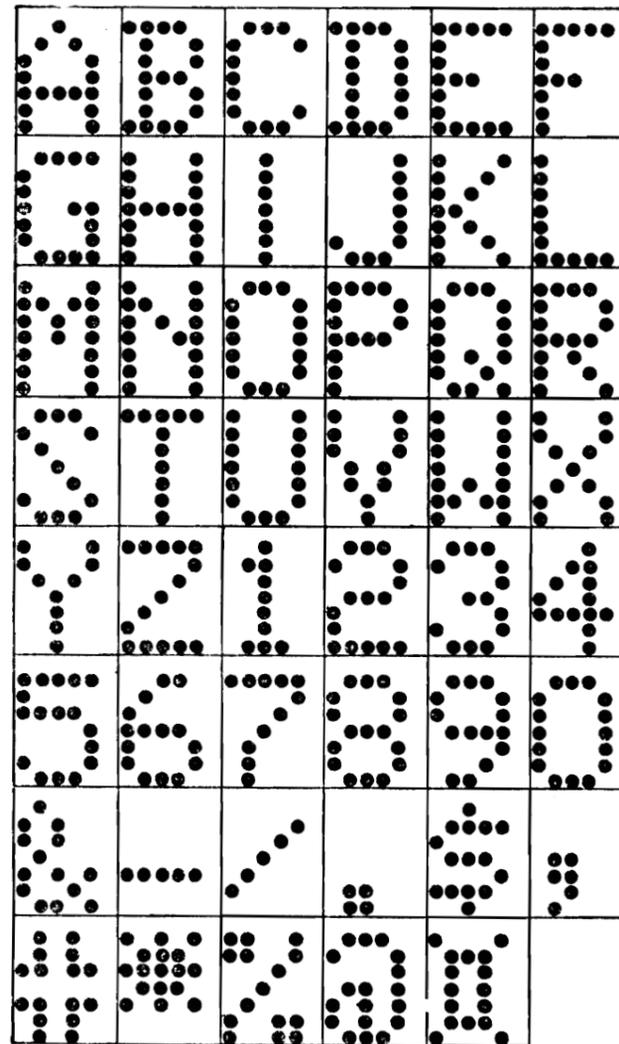

Figure 32. Character Impression Patterns
*Character Patterns.* Figure 32 is supplied as a guide to the wires used for printing each character. It can be used to determine when extra wires are being picked up in printing.